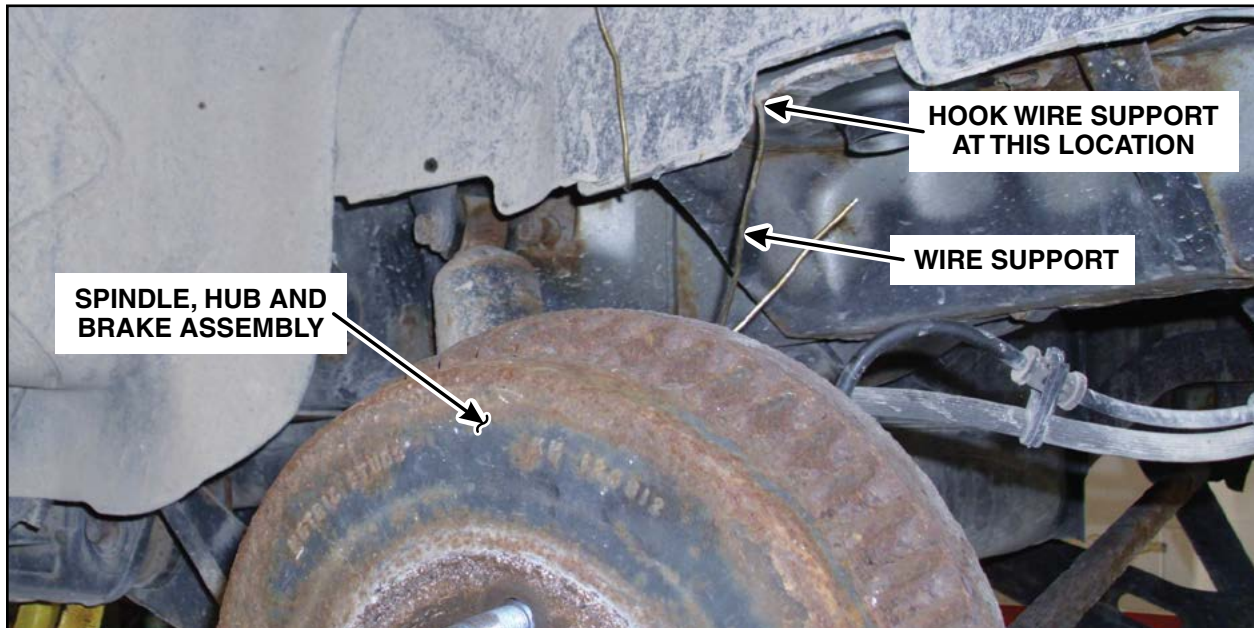

FIGURE 7
Position the spindle, hub and brake assemblies aside. See Figure 7.
14. Position the spindle, hub and brake assemblies in place. See Figure 7.